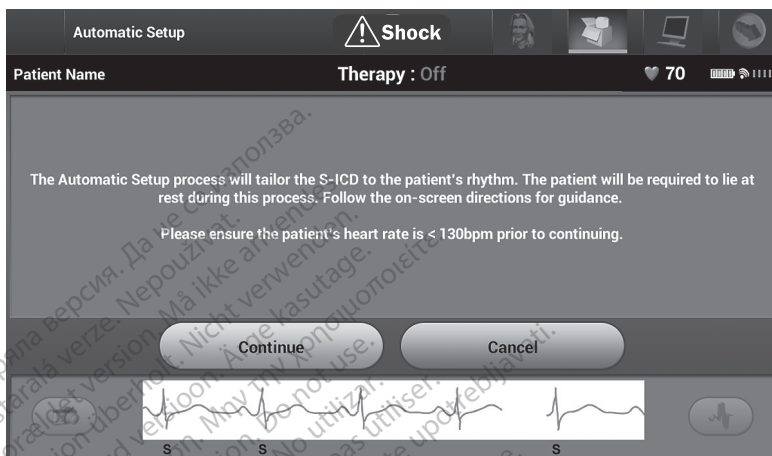

Figure 20. Automatic Setup screen
4. Select Continue if the patient's heart rate is less than 130 min^{-1} (Figure 20 Automatic Setup screen on page 31). For rates greater than 130 min^{-1} , select the Cancel button and refer to "Manual Setup" on page 50.